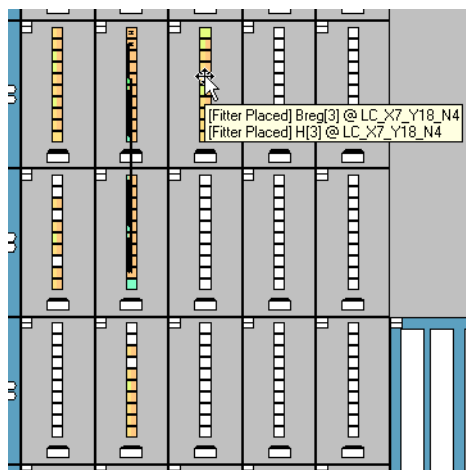

Figure 24: A portion of the expanded view.
7. A Zoom Tool, activated by the icon , can be used to enlarge parts of the image even more. Figure 24 shows a zoomed-in view of the floorplan that highlights the implemented circuit. To see the details given in the figure you have to select the Timing Closure Floorplan command **View > Interior Cells**. By positioning the cursor on any logic element the designer can see what part of the circuit is implemented in this resource. The floorplan tool has several icons that can be used to view aspects such as fanin and fanout of nodes, connecting paths between nodes, and so on. For more information on using this tool refer to the online help, by selecting **Help > Contents > Achieving Timing Closure > Timing Closure Floorplan Introduction**.
3. Right-click on the same name and choose **Locate > Locate in Timing Closure Floorplan** from the pop-up menu that appears. This causes the Quartus II software to display the floorplan, as in Figure 24, and highlight the part that implements the adder subcircuit.